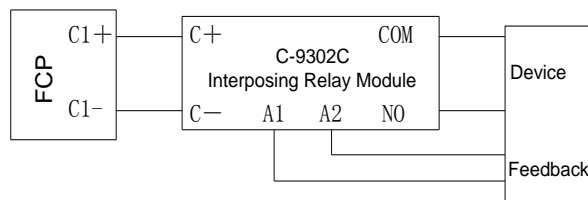
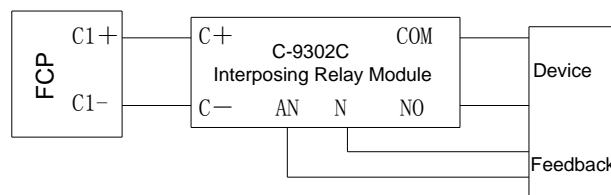
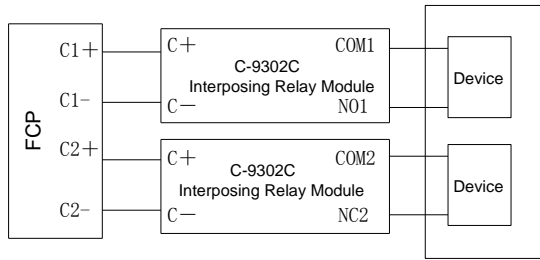

Fig. 4
Fig. 5
Fig. 6
1. Fig. 4 shows that the module controls the devices by volt-free input mode. .
2. Fig. 5 shows that the module controls the devices by voltage input mode.
3. It occupies two channels of fireman's control panel for the control of device needing start/stop. One channel is to start, and the other is to stop. Output device is pulse mode. Fig. 6 shows that two channels of fireman's control panel control the device.
Note: In Fig. 6, voltage or volt-free feedback can also be connected based on requirements, please refer to Fig. 4 or Fig. 5 for the specific connections.